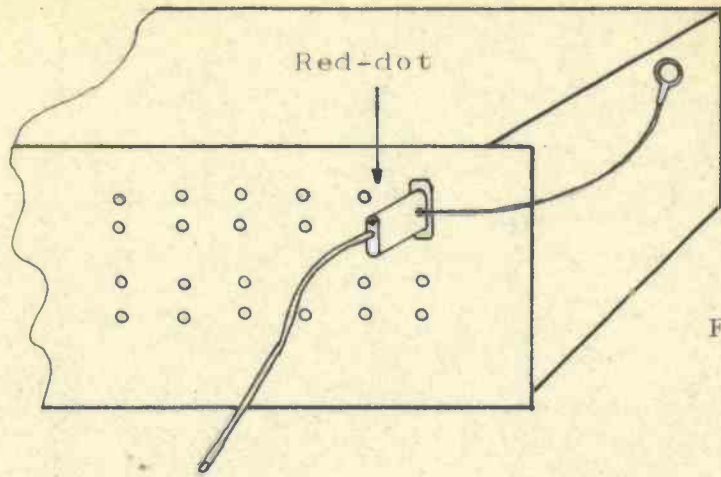

FIGURE 4
- 1) Remove receiver's cabinet and connect HC25 adapter to the crystal socket N°1: red dot must be upside (See Fig.4) ground connection must be made to the screw on the side of crystals board.